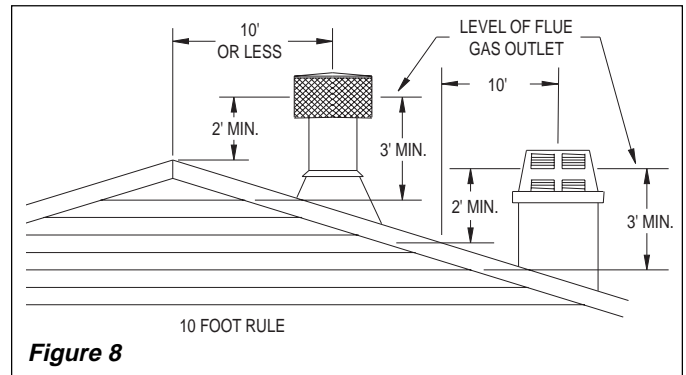

Figure 8
STEP 5: Add the next sections of the pipe until the end penetrates the roofline. Check to see that the proper clearances are maintained. Extend chimney by adding sections of double wall pipe until pipe is a minimum of 30 inches above the highest point of the roof cutout. Termination and chimney must extend a minimum of 36 inches above the highest point where it passes through roof (see 10' Rule, Figure 8, page 4).
All chimney terminations must extend a minimum of 3 feet in height above the highest point where it passes through the roof and must be at least 2 feet above the peak of the roof if within a horizontal distance of 10 feet from the peak (see Figure 8).